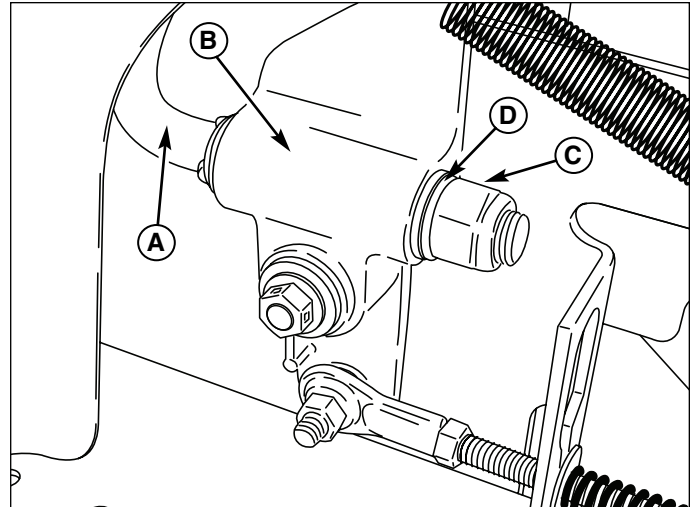

Figure 21a. Motion Control Lever Friction Adjustment
Tighten the nyloc nut (C, Figure 21a) securing the motion control lever (A) to the control bracket (B) against the nylon washer (D).